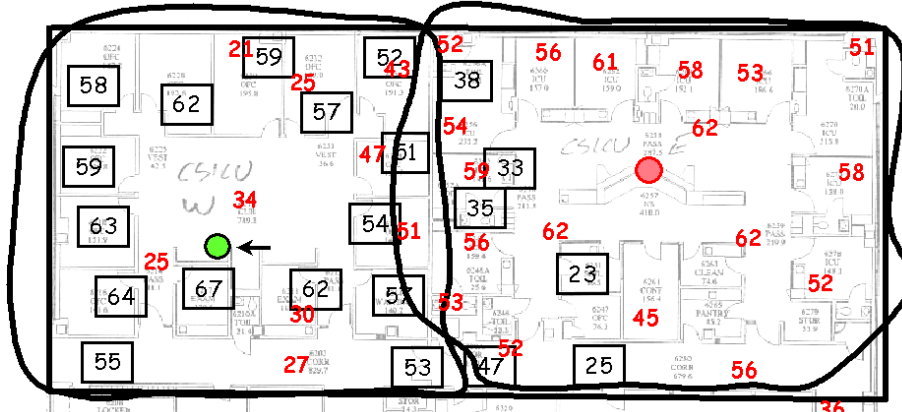

Figure 3-9 Adjusted Design based on Access Point and Throughput Results
Step 6. Adjust the placement of the access points if necessary to ensure adequate coverage and to minimize overlap of the cells. See Figure 3-9.